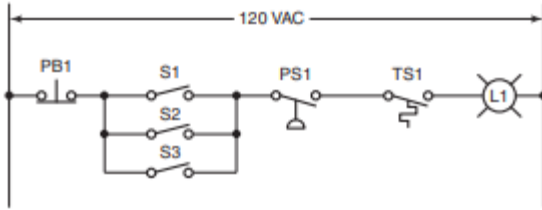

Figure 1-32 Circuit for Problem 5.
5. Write a program for the relay ladder diagram shown in Figure 1-32 .